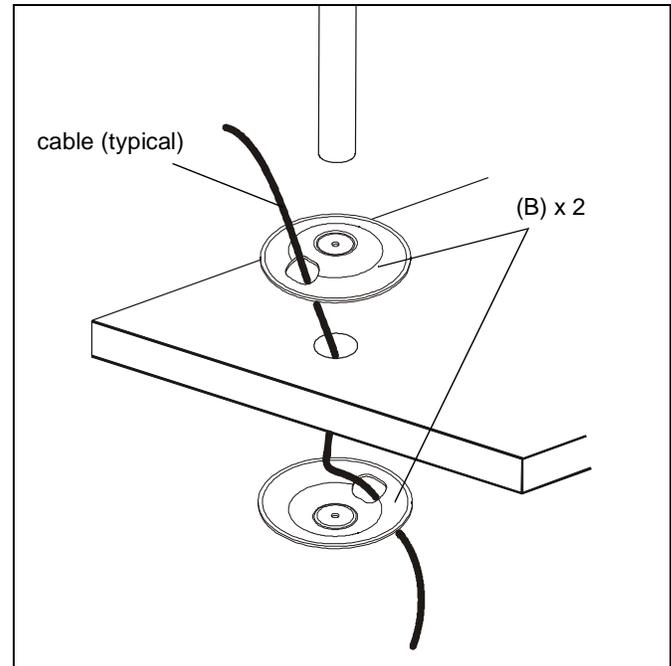

Figure 2
2. Route cables through holes on grommet plates (B) and hole in desk. (See Figure 2)